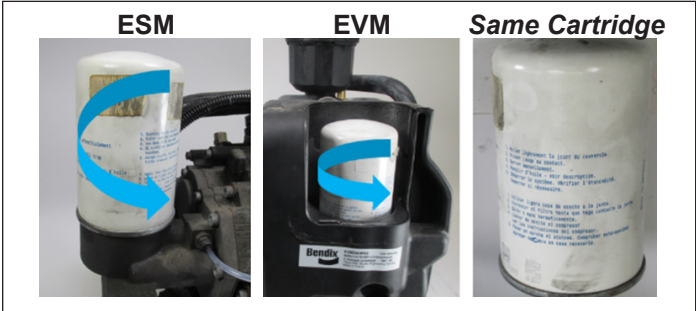

Figure 3 – Cartridge Removal
3. Remove the cartridge using a filter wrench. Identify the cartridge version. See Figure 3 and refer to Table 3.